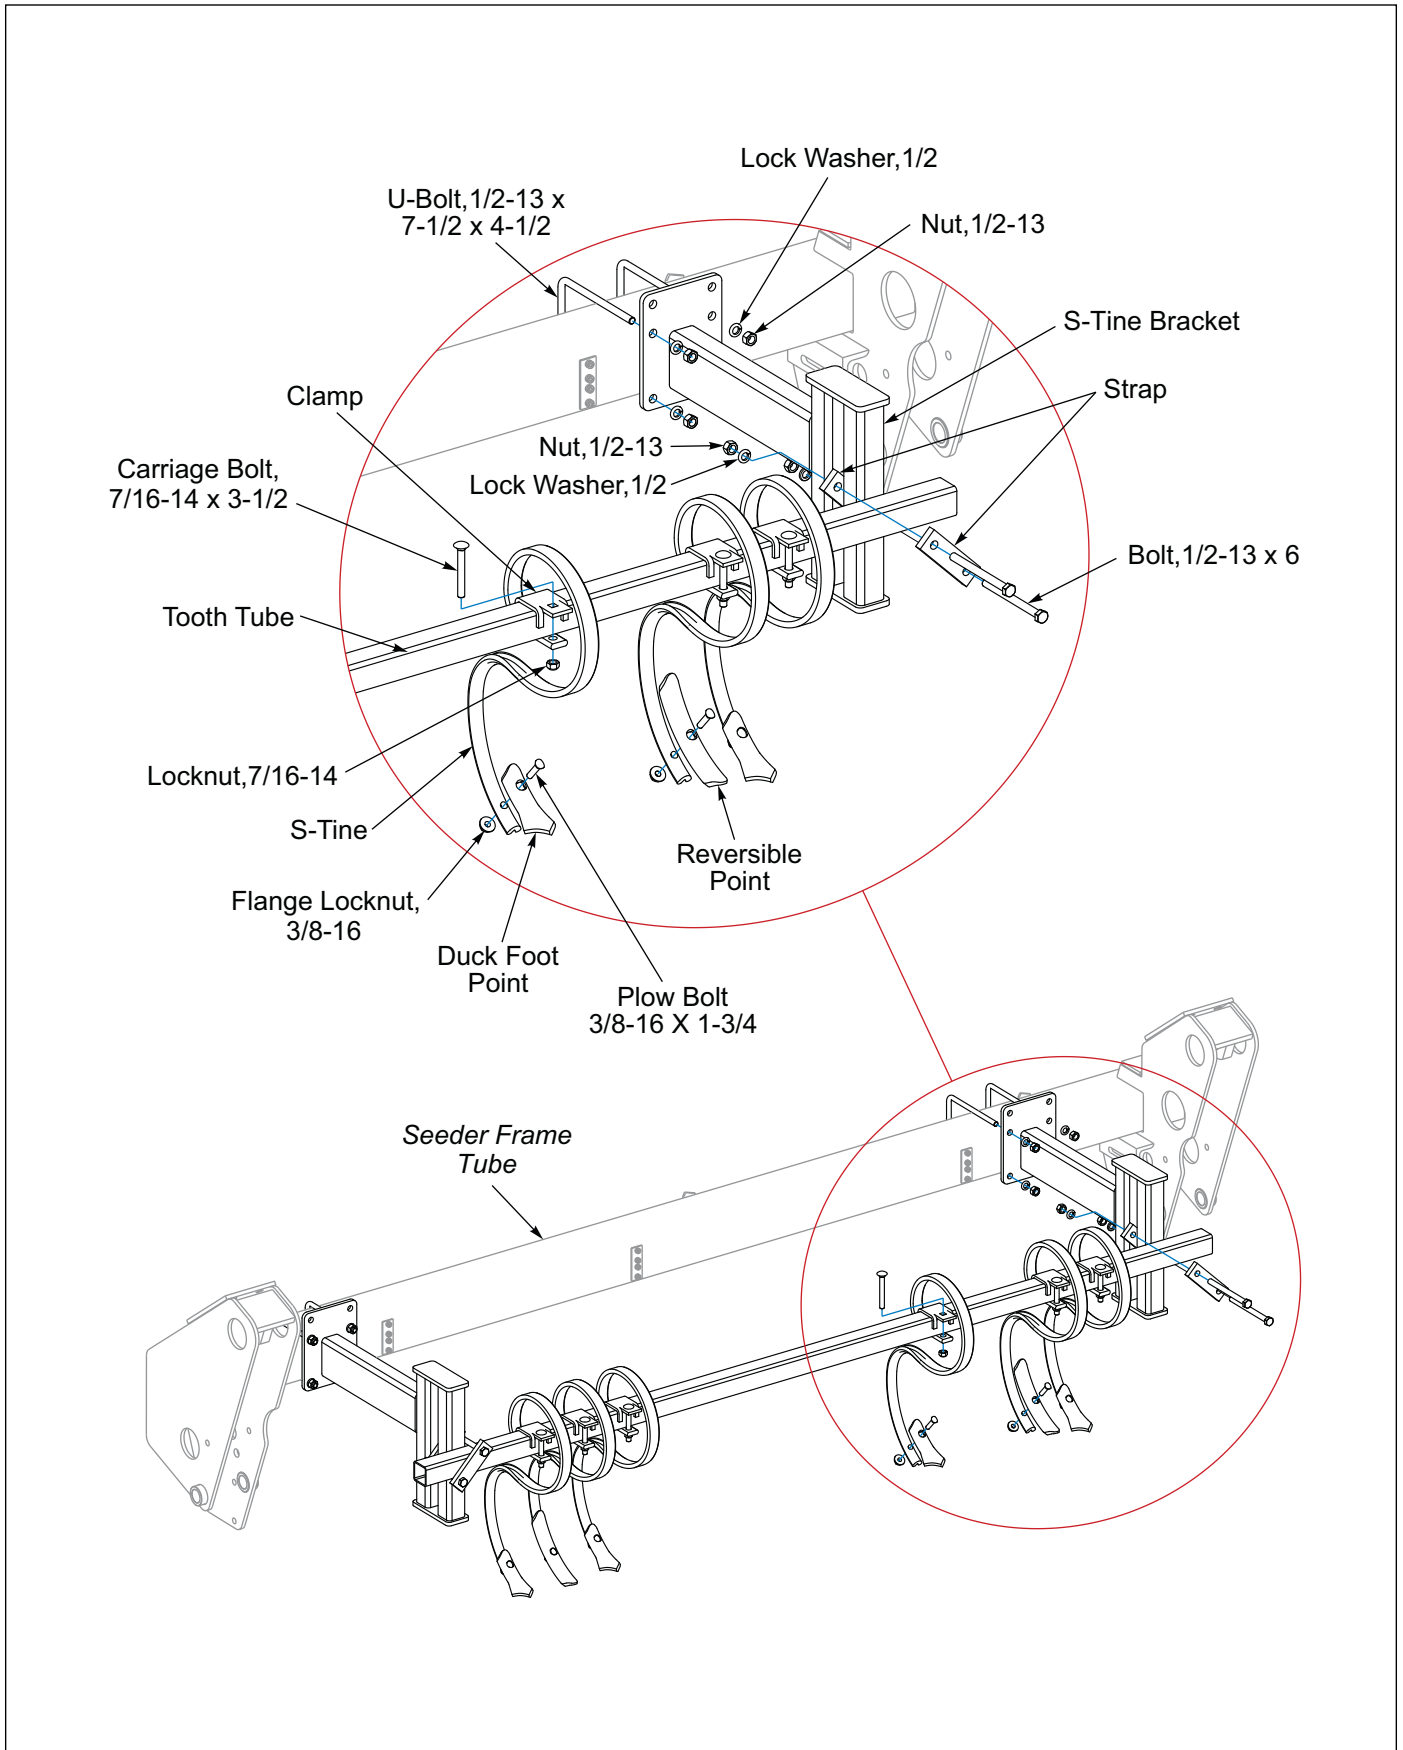

Figure 2-31: S-Tine Track Remover Kit - Optional
2. Attach the Tooth Tube to the S-Tine Brackets approximately 5 inches from each end of the Tooth Tube with Straps, 1/2-13 x 6 Bolts, Lock Washers and Nuts. See Figure 2-31.